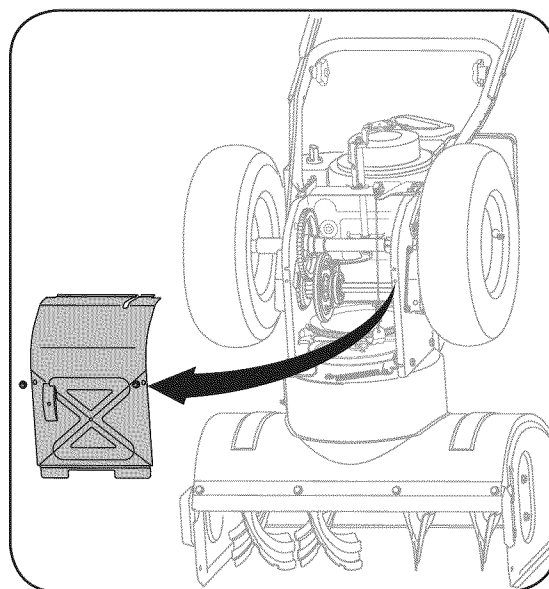

Figure 21
1. With the snow thrower tipped forward (be certain to drain gasoline or place plastic film under the gas cap if the snow thrower has already been operated), remove the frame cover underneath the snow thrower by removing the self-tapping screws. Refer to Figure 21 on page 17.
2. Drain the gasoline from the snow thrower, or place a piece of plastic under the gas cap. Carefully tip the snow thrower up and forward, so that it rests on the housing. Remove the self-tapping screws from the frame cover underneath the snow thrower and move the frame cover away. See Figure 21.